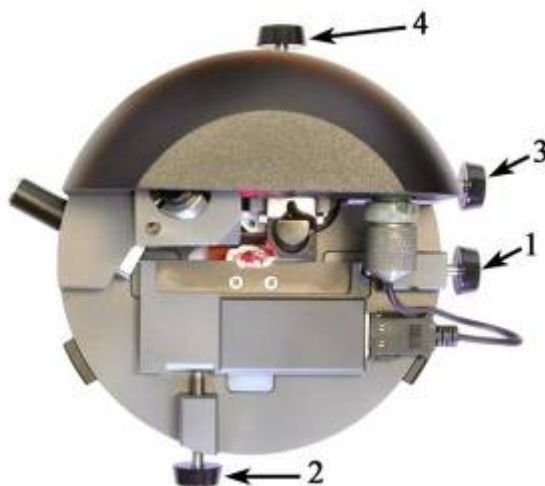

Fig. 2-9
1. Rotating screw 2 (Fig. 2-9) achieve the undistorted shape of the laser beam. Generally, the laser spot would appear in position 1 (see Fig. 2-10).